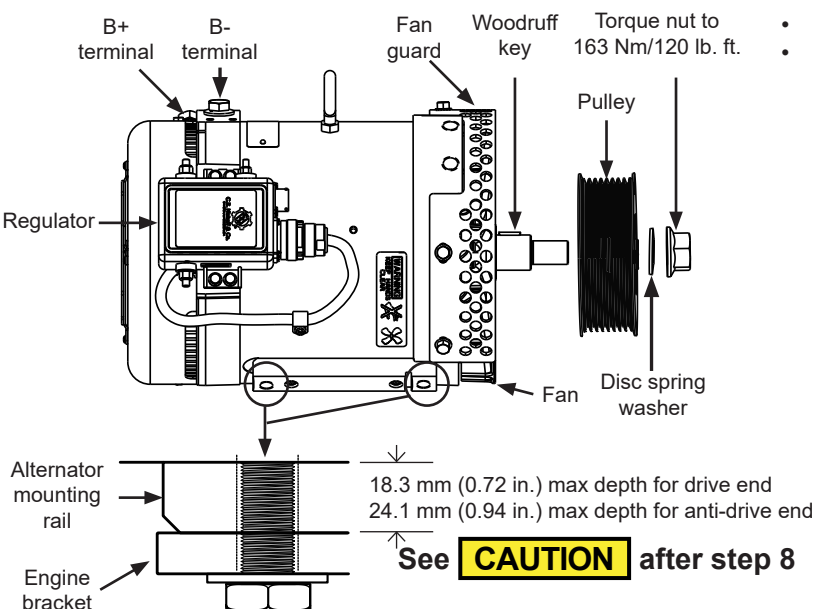

Figure 1: C850/C850D Alternator
7. Install pulley and furnished disc spring washer with beveled side facing pulley. Torque pulley nut to 163 Nm/120 lb. ft. See Figure 1.
CAUTION Minimum recommended thread engagement is 12.7 mm (0.5") into alternator drive end mounting holes and 16.5 mm (0.65") into anti-drive end mounting holes. Maximum mounting screw depth into alternator regardless of washer and bracket stackup is 18.3 mm (0.72 in.) into drive end mounting holes and 24.1 mm (0.94 in.) into anti-drive end mounting holes. See Figure 1 inset. **EXCEEDING MAXIMUM DEPTH WILL RESULT IN IMMEDIATE ALTERNATOR FAILURE.**